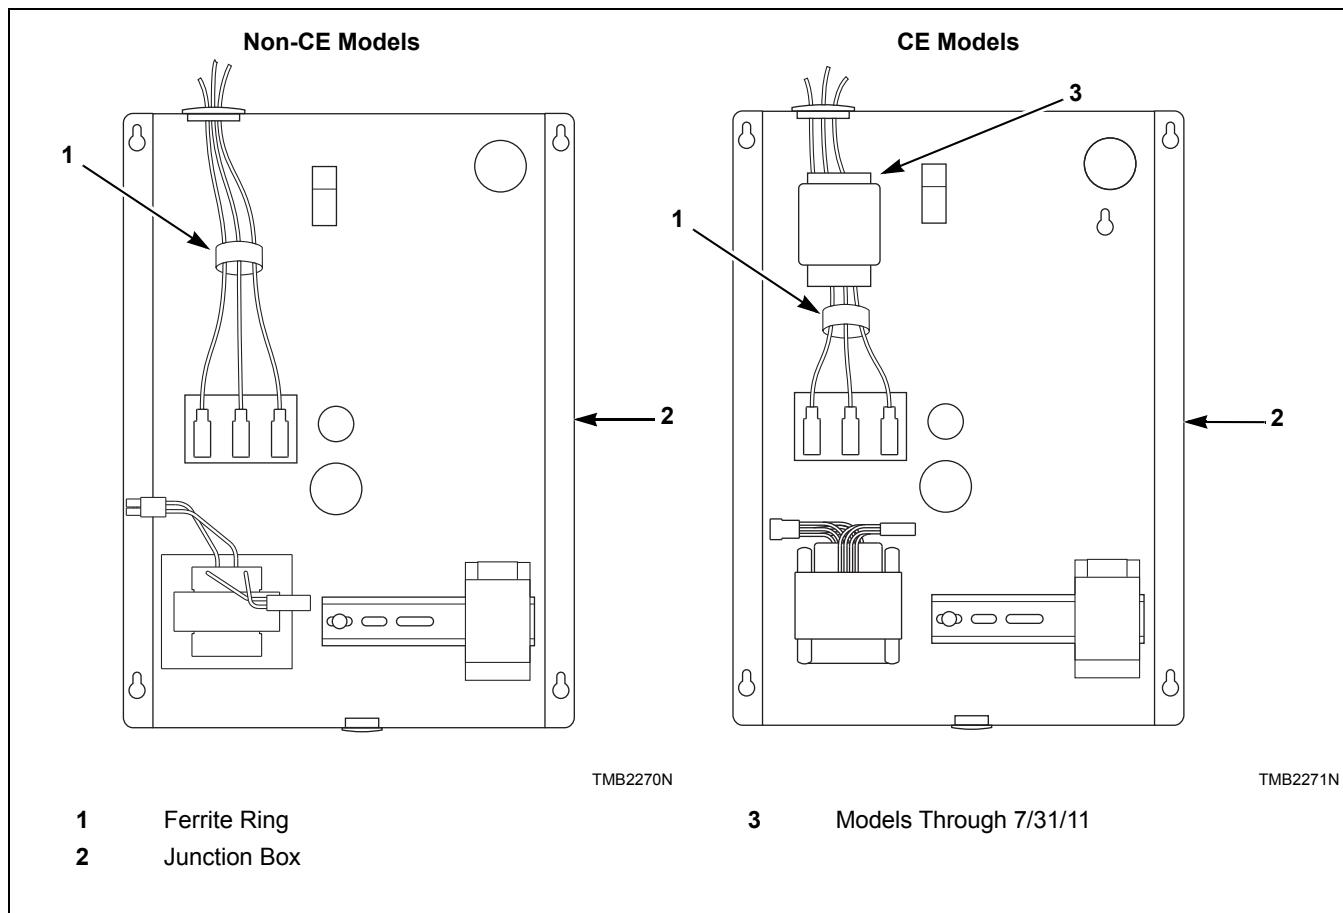

Figure 18
2. Snap the ferrite ring closed over all the service leads inside of the contactor box as shown. It is important that the ferrite ring be installed inside the contactor box. Refer to *Figure 18*. Do not install the ferrite outside of the box or other area. Make sure that service leads are in the center of the ferrite before closing the ring so as not to pinch or damage leads.